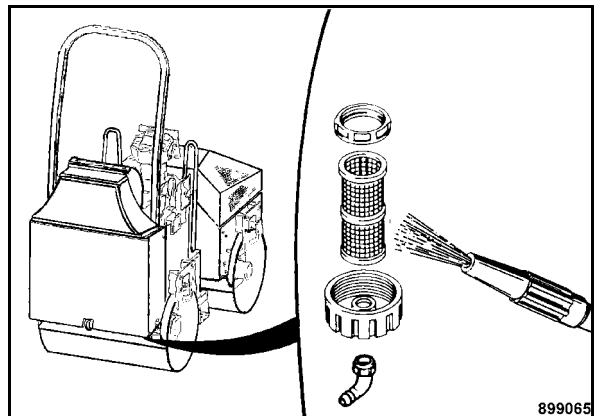

Fig. 84
- Unscrew the spigot nut from the hose (Fig. 84).